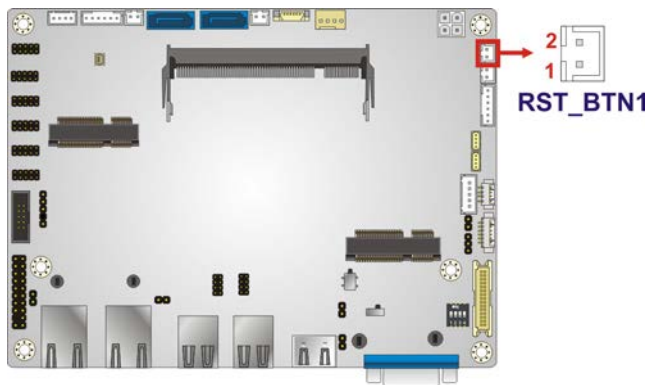

Figure 3-19: Reset Button Connector Location
- CN Location:** See **Figure 3-19**